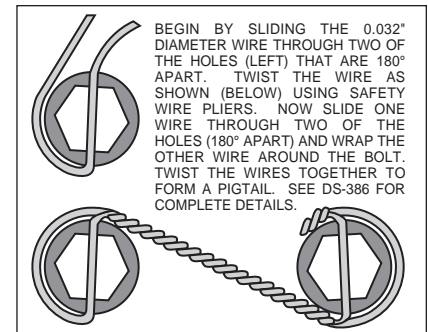

Figure 5. Safety Wire Diagram
- With the larger I.D. side of the rotor (4) facing away from the hat (3), bolt rotor (4) to hat (3) through the backside of the rotor using washers (5) and bolts (6). Using an alternating sequence, apply red *Loctite*® 271 to the threads and torque bolts to 155 **in-lb**. For an added measure of security, the bolts may be safety wired using standard 0.032 inch diameter stainless steel safety wire as shown in Figure 5. Please refer to Wilwood's data sheet DS-386 (available at www.wilwood.com/Pdf/DataSheets/ds386.pdf) for complete safety wire installation instructions.